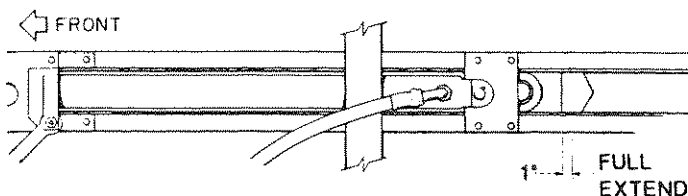

Fig. 41
4. Mark the location of the plunger fully extended. Also mark 1" forward of this position, see Fig. 41.